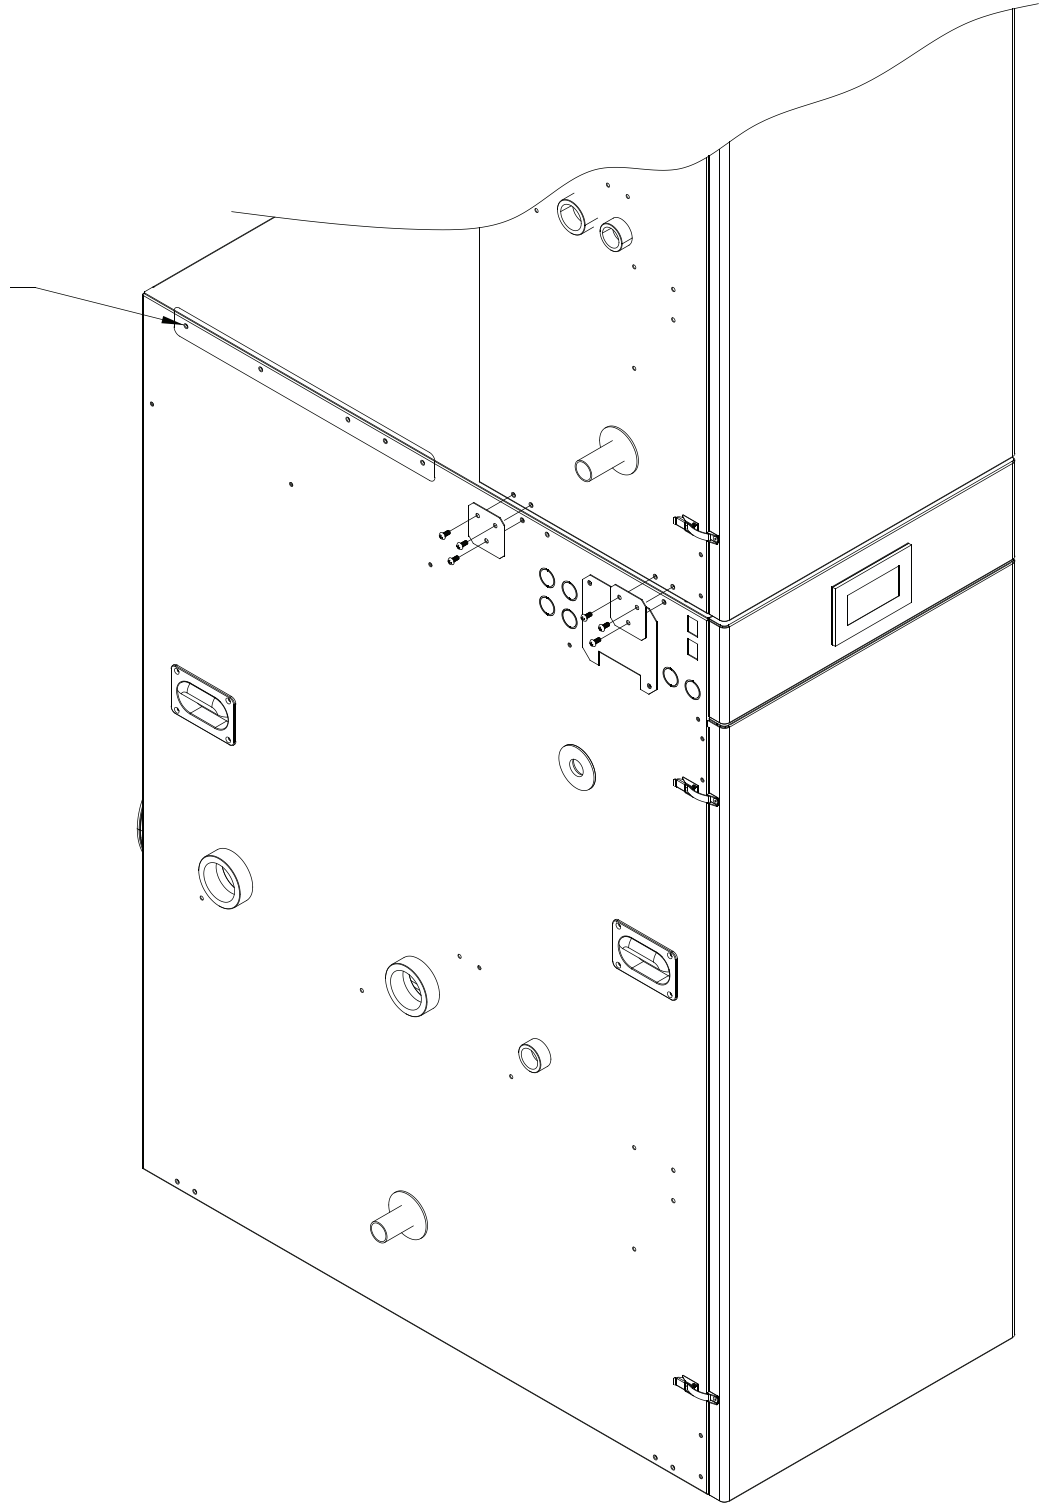

Figure 5: Boiler Stacking
[six (6) self-drilling hex washer head plated #8 x ½” long screws, P/N 80860743]. Locate and remove the brackets and the hardware. The stacking boiler attachment bracket has three 7/32” diameter holes punched in a triangular pattern. See Figure 5 “Boiler Stacking”.